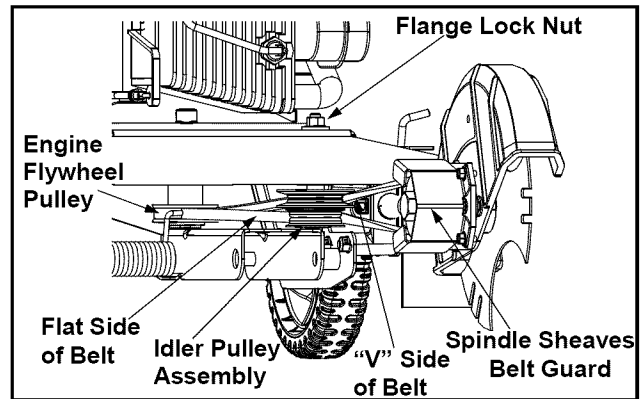

Figure 16
- Working in front of the edger, loosen the flange lock nut on top of frame, allowing the idler pulley assembly to pivot slightly out from the frame. See Figure 16.
IMPORTANT: To aid in reassembly, note the orientation of the drive belt on the two idler pulleys and the engine flywheel pulley prior to performing the following steps. Refer to Figure 16.
IMPORTANT: Make certain that the "V" side of the belt is seated into the top pulley and the flat side of the belt is seated into the bottom pulley. See Figure 16.